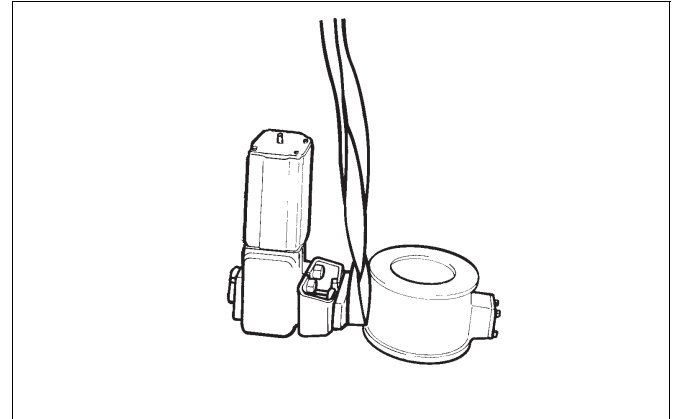

Fig. 6 Lifting the valve
- Place the hoisting ropes carefully, unscrew the pipe flange bolts and lift the valve from the pipeline using the ropes. Note the correct lifting method. See also Fig. 6.